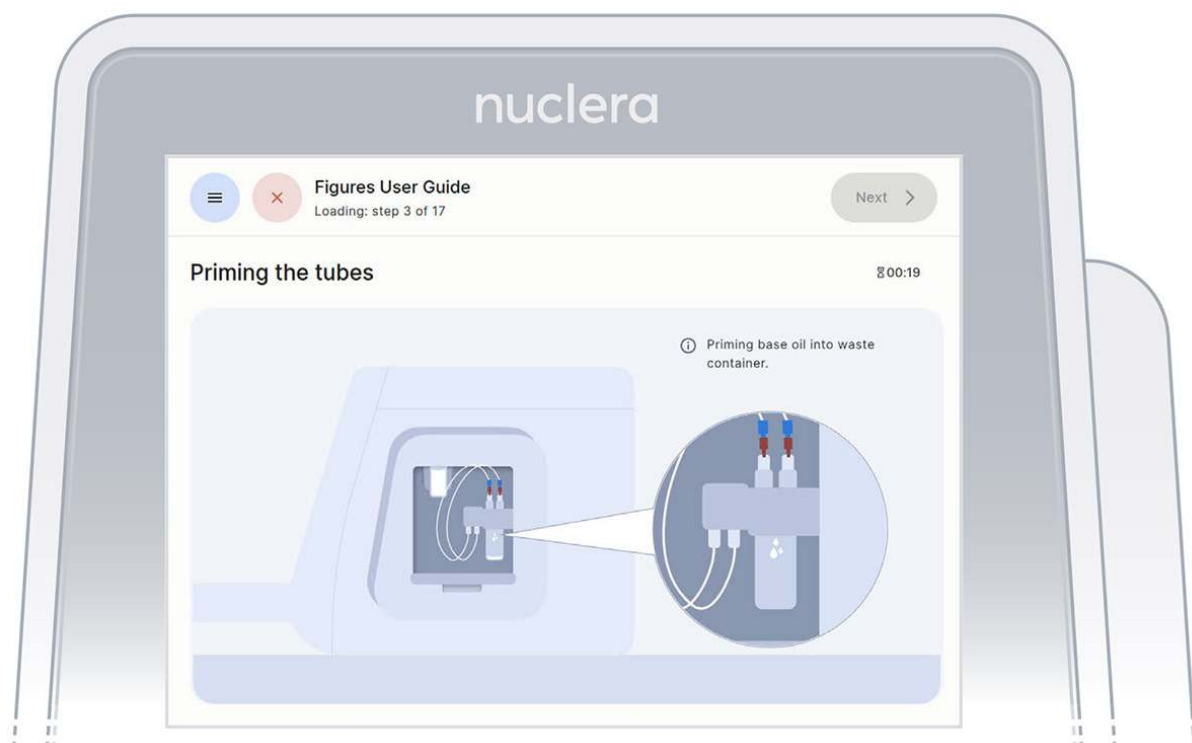

Figure 15: Priming the pump tubings with base fluid
1. With the tubing and containers in place, ensure that some of the base fluid has dripped into the waste container (Figure 15).